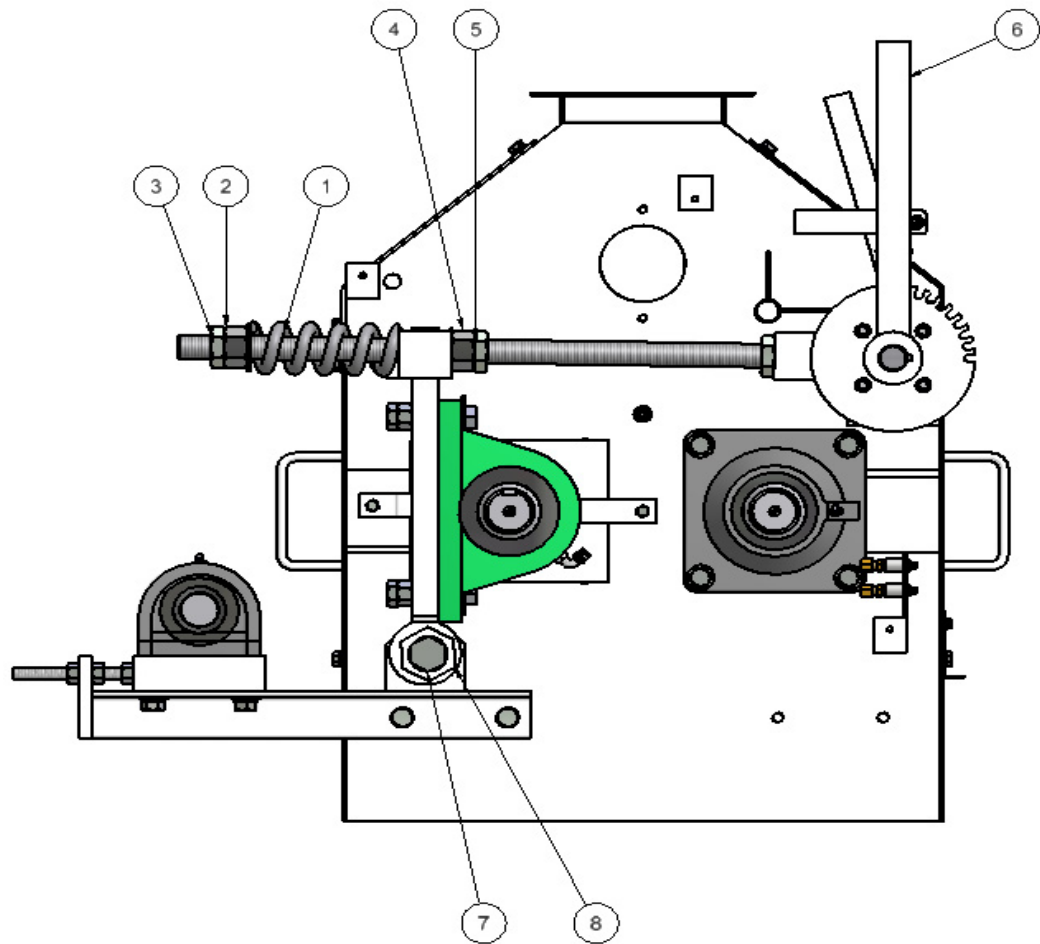

FIGURE 1
The roll tension springs (see **item 1**, Figure 1) should never exceed a pre-load (difference between spring free length and compressed length) greater than one inch and must be adjusted equally on each end of the rolls. Operating with a minimum of spring pre-load will increase the roll life. To adjust the spring pre-load loosen the locknut, (**item 3**) and rotate the adjusting nut, (**item 2**) clockwise to increase spring pre-load (compress spring) or counterclockwise to decrease spring pre-load (lengthen spring). Retighten locknut when adjustment is completed.
(Refer to Figure 1)